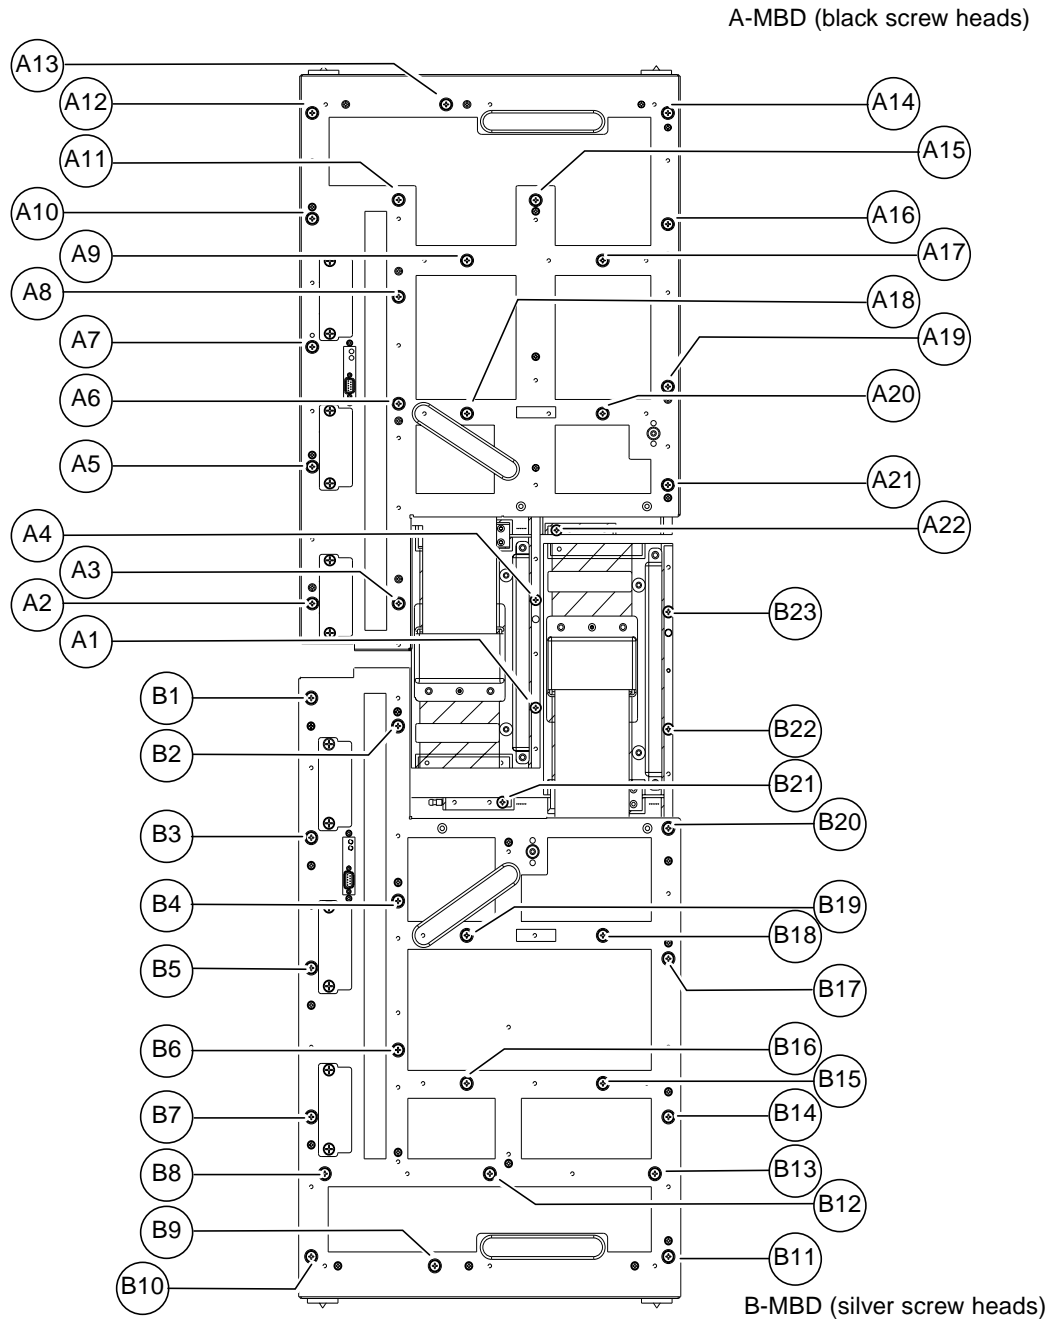

FIGURE 12-13 Motherboard Securing Screws
12. Loosen all 22 (A-MBD) or 23 (B-MBD) captive screws securing the motherboard to the chassis (see FIGURE 12-13).